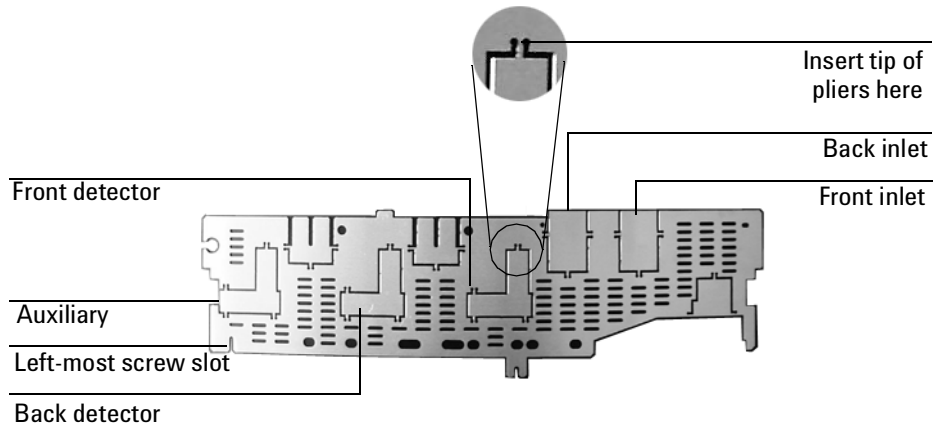

Figure 5. Top rear panel cutouts
9. Using a pair of needle-nosed pliers, remove the appropriate top rear panel detector cutout for the FPD. Also remove any cutouts needed to access other manifolds or accessories installed in the GC. See Figure 5.